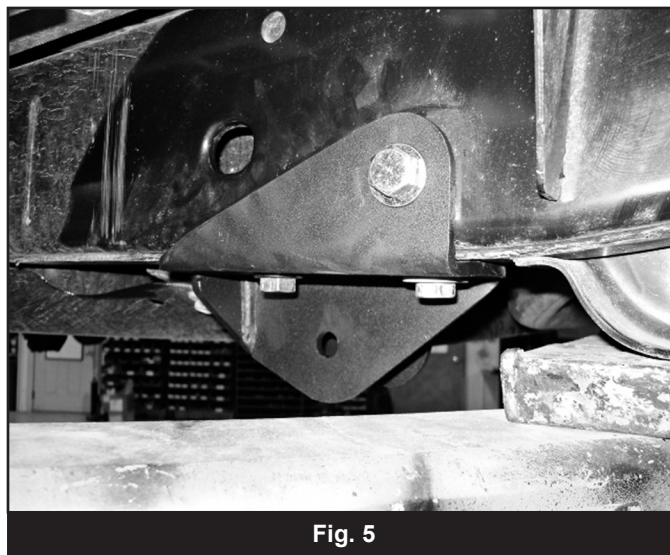

Fig. 5
8. With all of the LCA mount hardware installed, torque fasteners to 65 ft-lbs. The OE skid plate bolt should be the last bolt to be tightened (Fig 5).